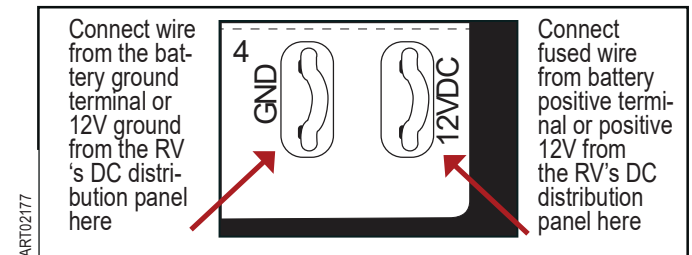

Fig. 15 Connect the battery
1. Connect the battery ground wire or 12V ground from the RV's power distribution panel to the terminal on the power board marked GND. Refer to Fig. 15.
2. Connect the fused wire from the battery positive terminal or positive 12V from the RV's power distribution panel to the terminal on the power board marked 12VDC. Refer to Fig. 15.